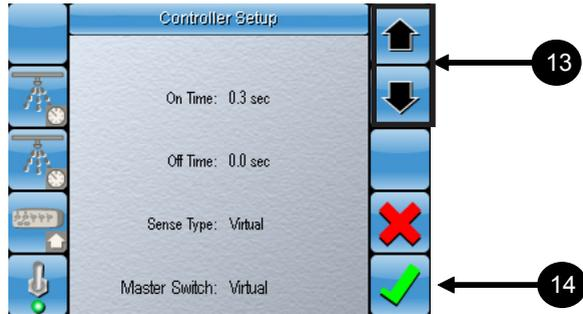

Figure 2-16. Set the Master Switch
14. Select  (figure 2-16) to confirm your selection